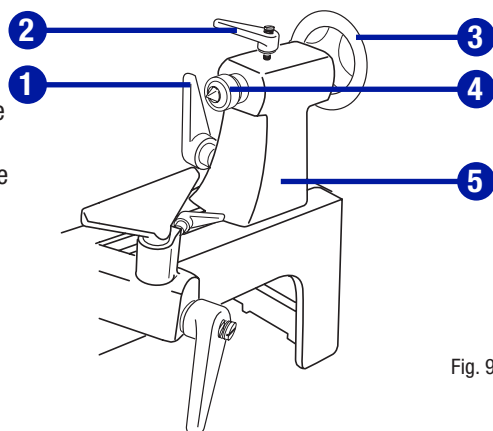

Fig. 9
- Turn the On/Off switch (1) to the Off position and wait about five minutes for the motor to cool.
- Press the reset button (4). Turn the switch (1) to the On position.
**TAILSTOCK (Fig. 9)**
- Move the tailstock (5) by loosening the lock lever (1) and pushing the tailstock to the desired position on the bed. Lock by tightening the lock lever (1).
- The spindle can extend up to 2 1/2" (6.35 cm) from the tailstock housing. Move the tailstock spindle (4) by loosening the spindle lock lever (2) and then turning the hand wheel (3). Turning the hand wheel clockwise extends the spindle; turning it counter-clockwise retracts the spindle. Lock levers (1) and (2) before operating the lathe.